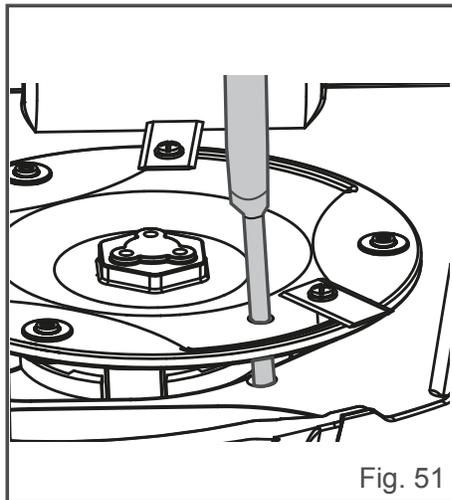

Fig. 51
- Use a suitable tool (e.g., a screwdriver) to insert into one of three holes in the blade disc to fix it in place (Fig. 51). This ensures the blade disc is not turning when replacing the blades to avoid personal injury.